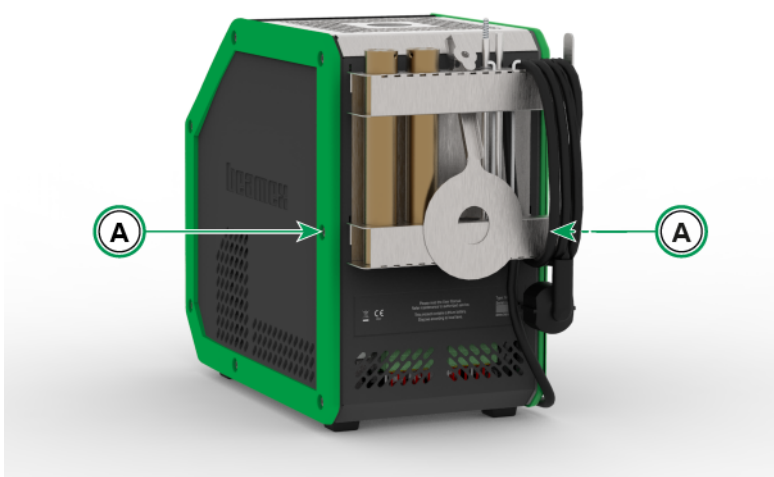

Figure 24: MC6-T660 transportation position
1. Loosen the two screws holding the side panels in place (**A** in Figure 24: MC6-T660 transportation position).
Note: When moving within the factory, it's recommended to place the accessories in their designated transportation positions, as illustrated in Figure 24: MC6-T660 transportation position.